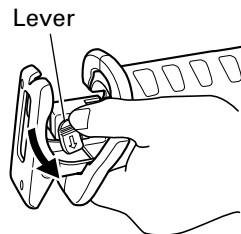

Fig. 3
- (2) Push the lever in the direction of the arrow mark shown in Fig. 3 marked on the lever. (Fig. 3)
- (2) After you have pushed the lever in the direction of the arrow mark shown in Fig. 3, turn the blade so it faces downward. The blade should fall out by itself. If the blade doesn't fall out, pull it out by hand.